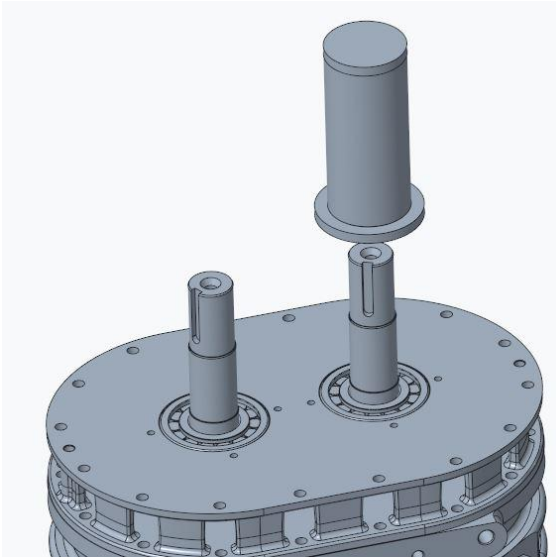

Fig. 4
13. Press roller bearings (8) into the DE side plate (4) using tools 564-023, 564-024, and 564-025 as shown in figure 4. Measure DE clearances and radial clearances.